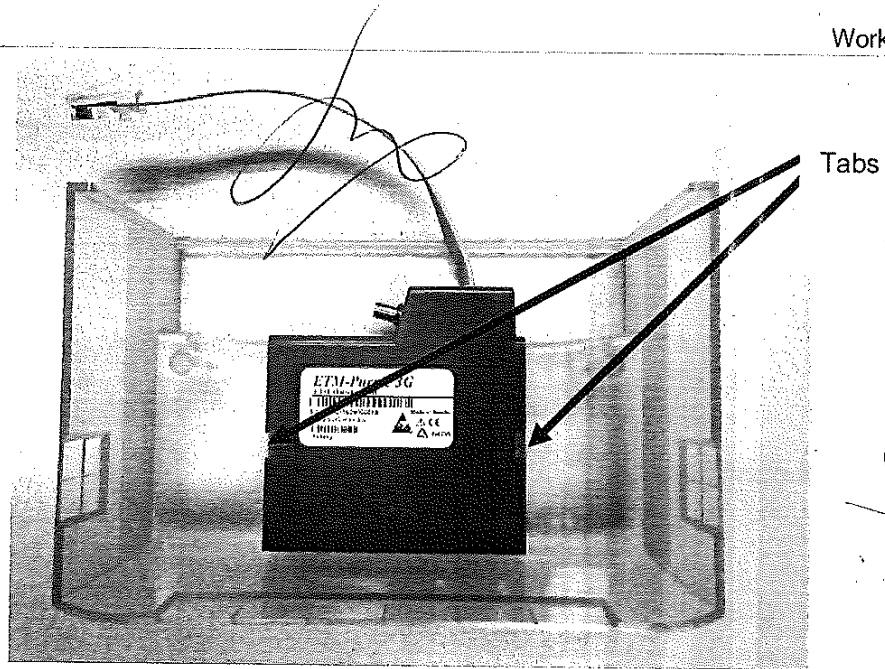

Figure 12. Detaching modem from terminal cover
1. Detach the ETM-Purple modem from the terminal cover by pressing on the tabs on the side of the modem holder preferably with a small screw driver. Please refer to figure 12.